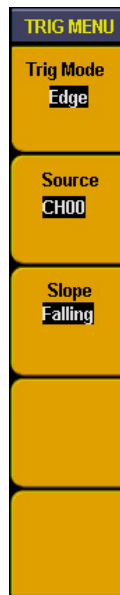

Fig.5-54: Edge trigger menu
1. **Edge trigger:** make a channel as trigger source and set rising edge, falling edge or either edge as trigger condition to generate trigger. Edge trigger menu refer to Fig.5-54.